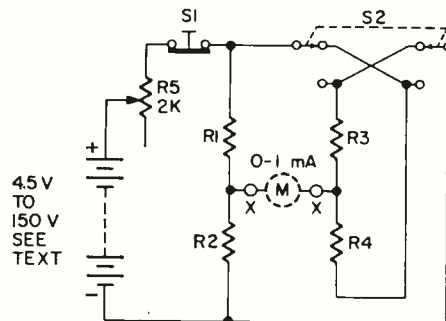

Fig. 1
Fig. 1 shows a simple bridge consisting of R1, R2, R3 and R4. Resistors R3 and R4 can be interchanged (by S2) so current imbalance can be compared. Switch S2 may consist of a toggle, knife or momentary d.p.d.t. switch. S1 may be a toggle or normally closed push-button switch. The meter is an old 0-1-mA, 50-ohm movement in a vom. Any similar meter is suitable. The meter (M) is connected (as shown in dashed lines) across points X—X when checking resistors up to 100 ohms or so.